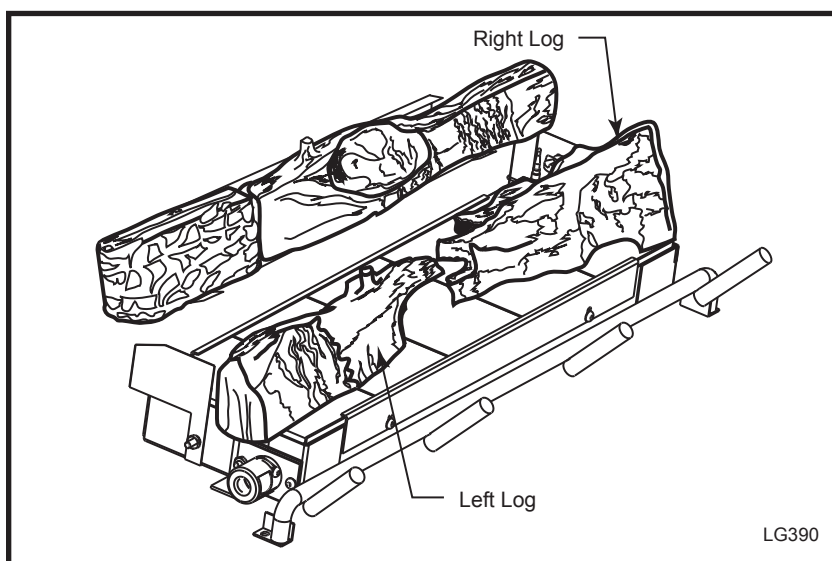

Fig. 51 Place Left and Right Logs on pem studs on burner.
4. Place the Left Log on the pem studs on the left side of the burner. Place the Right Log on the pem studs on the right side of the burner. (Fig. 51)